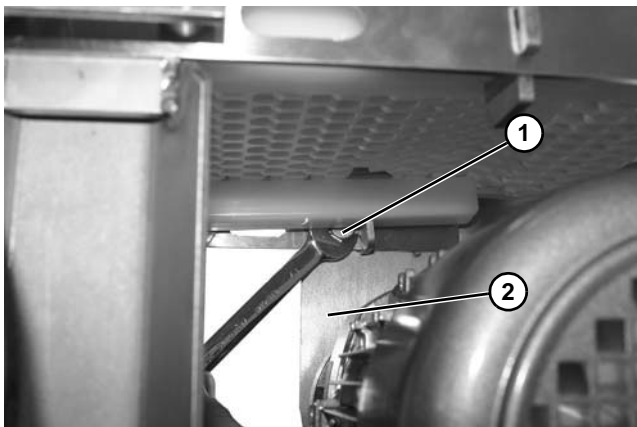

Figure 5
4. Insert bolt (Figure 5, item 1) through backside of conveyor into threaded hole in mounting bracket (Figure 5, item 2).